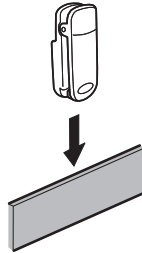

Fig 2
- Clip the Quick-Draw Belt Clip onto your belt (Fig 2).